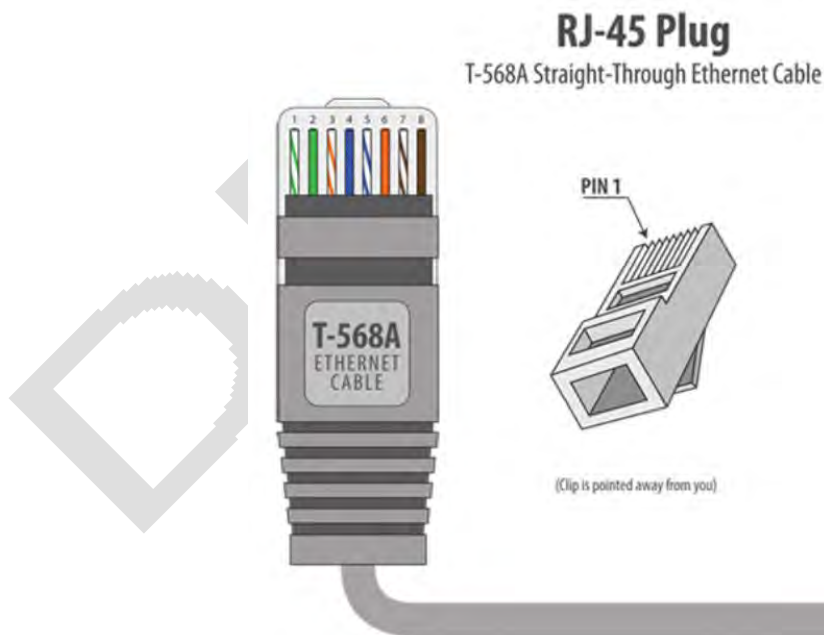

Figure 16: Wiring of the cable at the RJ45 connector (following T-568A/B specification) to be inserted in the PoE Injector.
- The RJ45 cable must be wired according to the T-568A/B specification (Figure 16).